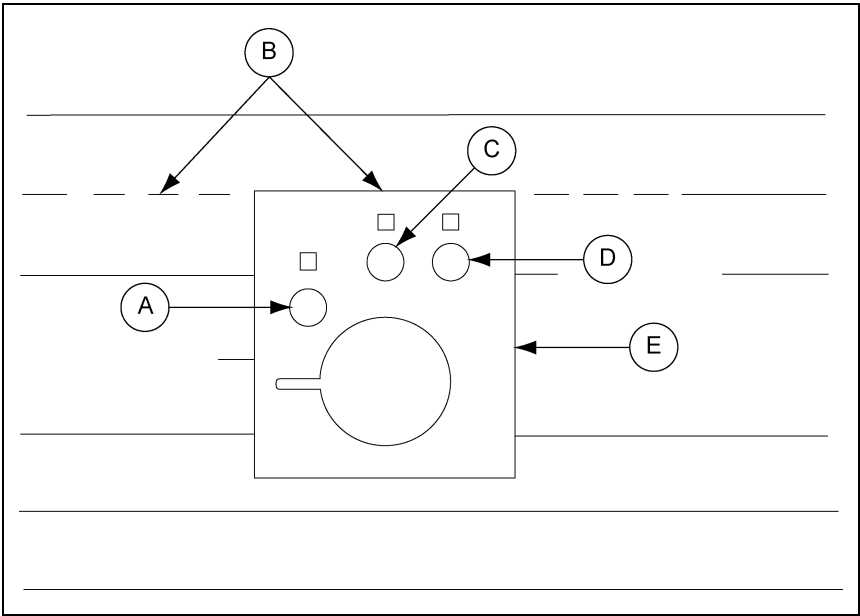

Figure 5A
There are three (3) small holes in the wall plate. One is for the shift rod with the other two (2) being for the slide gate control rods. One sump control rod is standard equipment with the second being used only if the optional intermediate sump is installed. (8" Grain Flow only - See Figure 5A.)